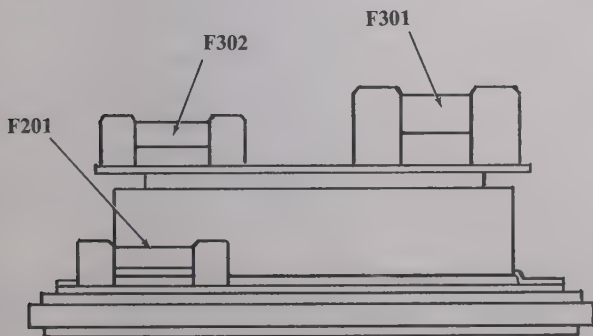

**Figure 6-2. Battery Fuse Location
6.6.2 The Instrument contains three fuses. (refer to Figure 6-2):
- Remove the four deeply recessed screws from the case back (one at each corner), and carefully lift off the case back. The battery fuse is now accessible (refer to Figure 6-2).